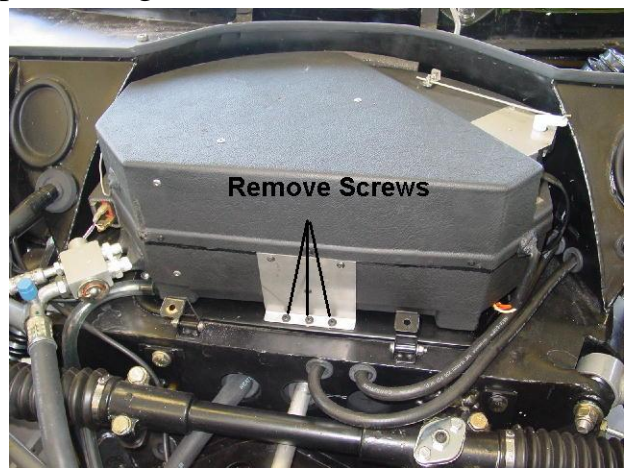

Fig. 8
4. Remove the three screws that retain the A/C evaporator box. *Fig. 8*